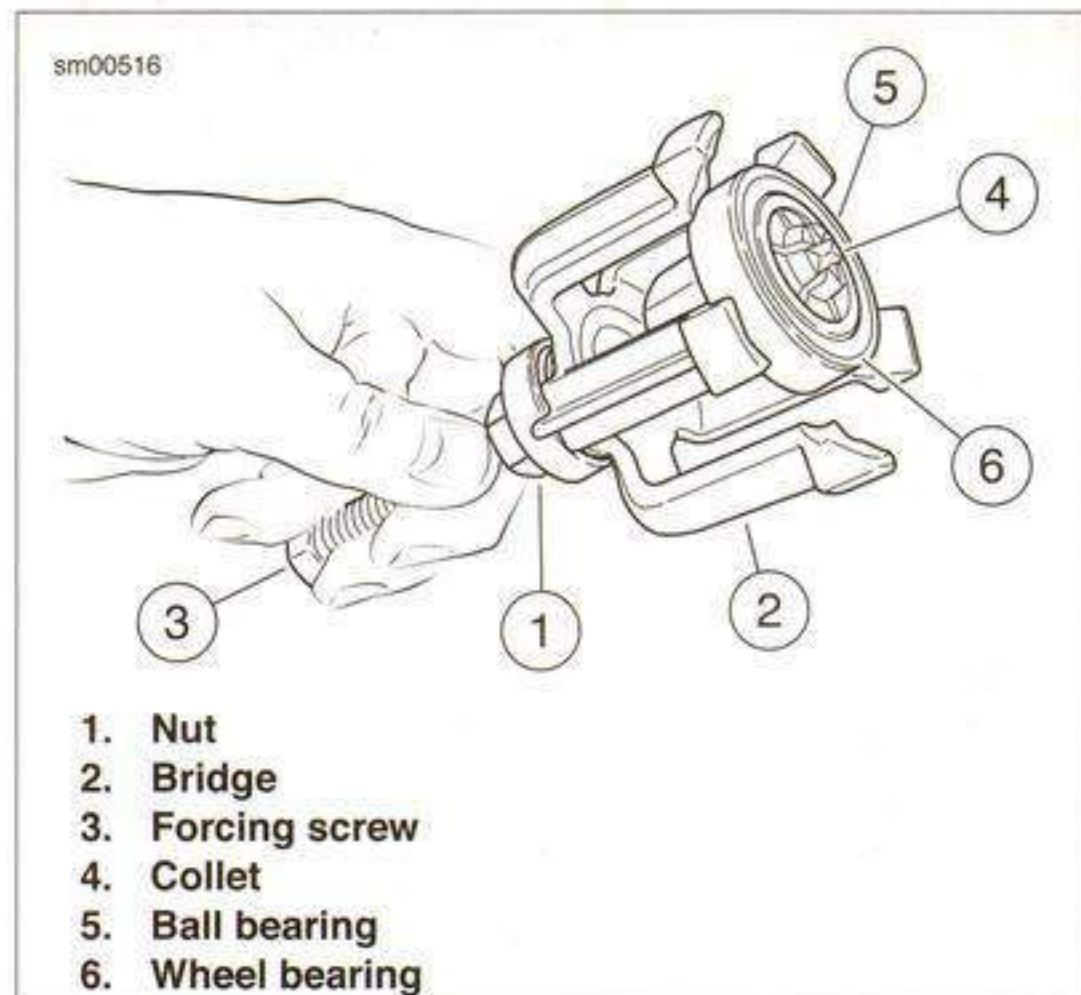
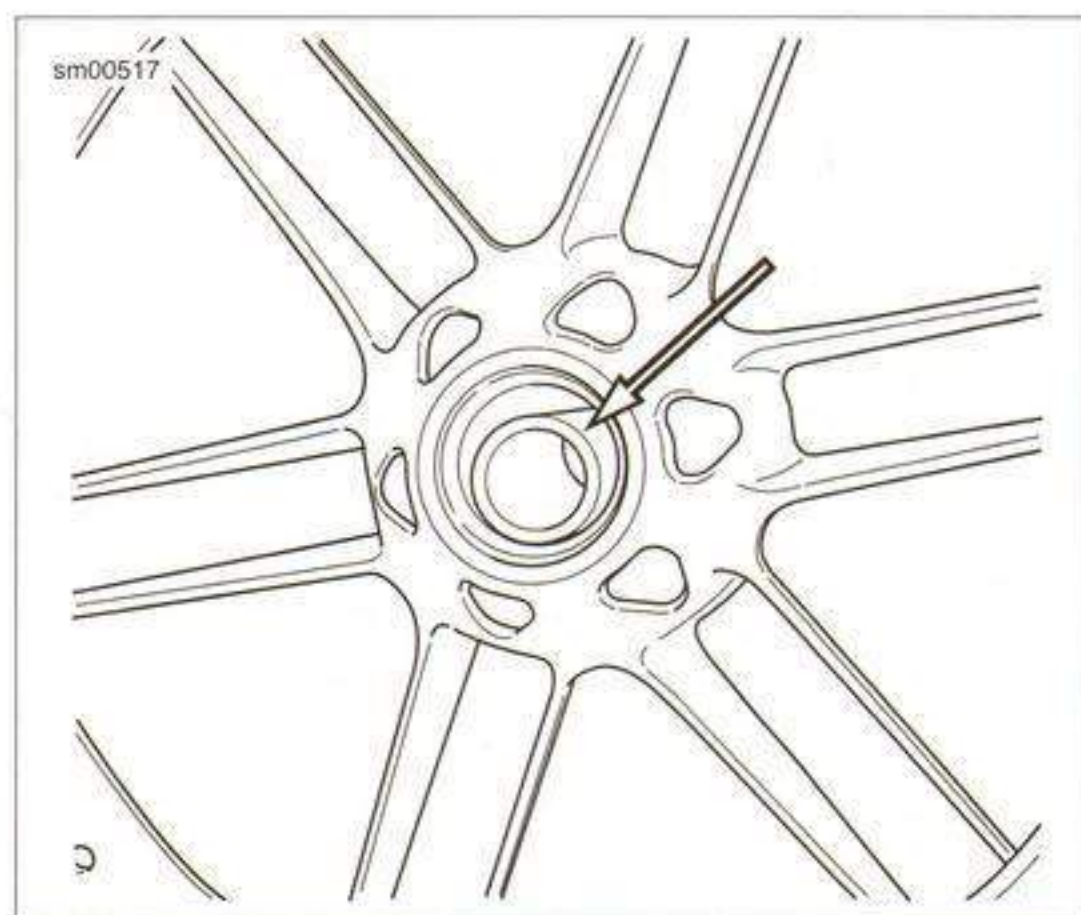

Figure 2-42. Removing Bearing from Puller
Figure 2-43. Remove the Spacer
9. See Figure 2-42. Loosen the nut (1), and back off the bridge (2). Hold the forcing screw (3) while holding the collet (4) to remove the forcing screw from the collet.
10. Remove the ball bearing (5) and wheel bearing (6) from the collet (4).
11. See Figure 2-43. Remove the spacer.